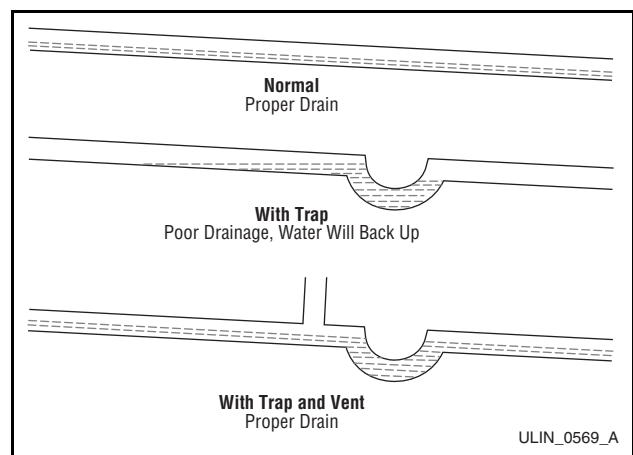

Figure 62
- Drain line does not create traps or created traps are vented (**Figure 62**).